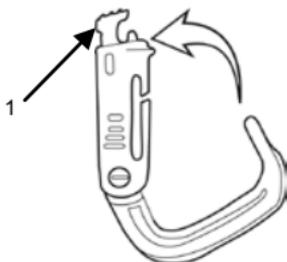

Figure 1. Grimlock.
1. Insert plunger assembly (Figure 1, Item 1) through webbing loop.